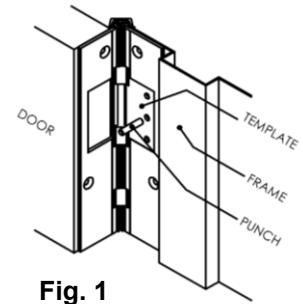

Fig. 1
3. Using the transfer punch, center punch both the mounting holes and the wire access hole. See Fig. 1.